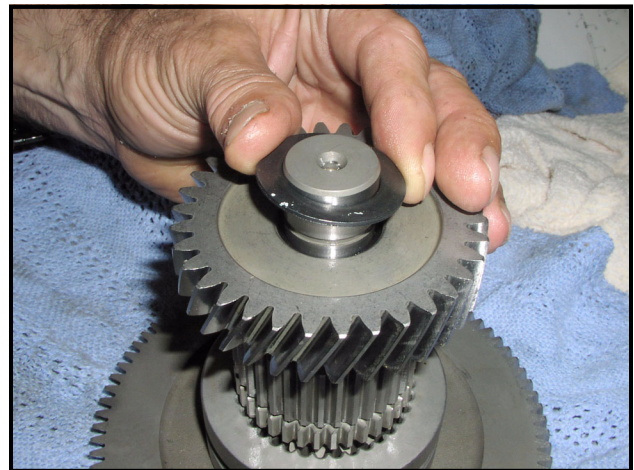

Figure 8-72 Flat Washer on Small Helical Gear
13. Install the flat washer on helical gear (**Figure 8-72, Page 8-21**).